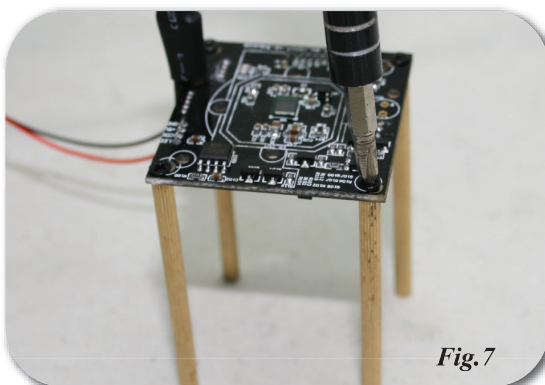

Fig.7
Step 7: Now replace the 4 short spacers with the new long spacers. Please use the 4 screws from step 6 to fasten them to the board. (Fig.7)